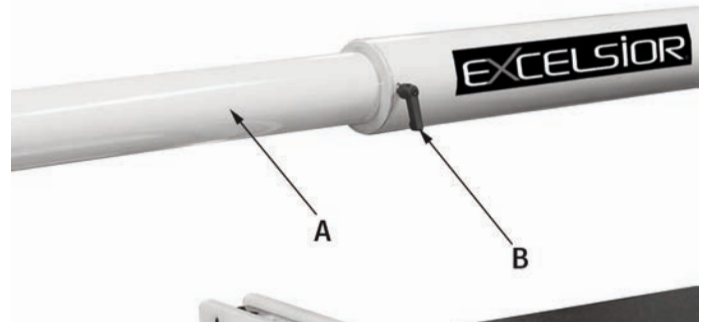

FIGURE 9
- 1) The main boom comes with a 3" diameter inner telescopic boom (A) Fig.9 which slides out of the main 4" boom. Loosen boom lock knob (B) and extend the inner boom to the desired distance over the blade. Do not over-tighten the boom lock knob, very little pressure is needed to secure boom.